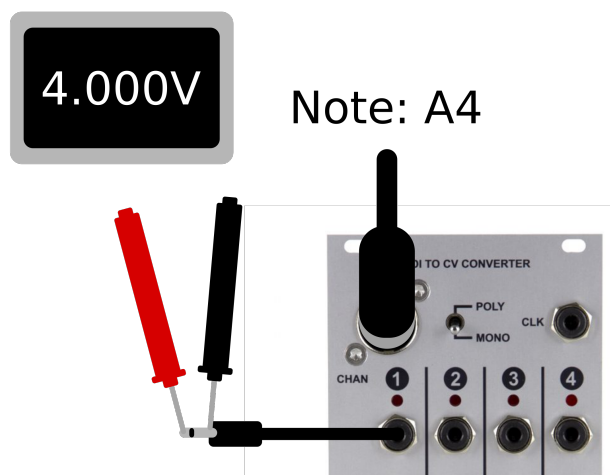

Figure 12: A4 should be 4V. (Octave can differ)
Step 2: Connect a Midi keyboard and play A notes. Measure the output pitch voltage on channel 1 (See figure 12).